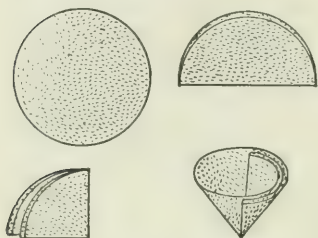

Fig. 6. Folding a filter paper.
**To filter** a liquid, first fold the filter paper in quarters and then open it up so as to form a cone (Fig. 6). Fit the cone into a funnel of such size that the paper does not quite reach the top and wet it thoroughly with water. The filter is now ready for use.